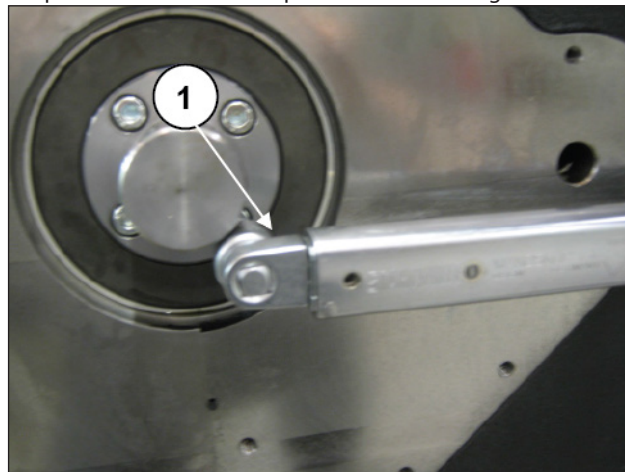

Fig. 123
Assemble the lube pump drive shaft to the crankshaft and fix with the four M8 screws (pos. ①, Fig. 123) then tighten with a torque wrench to the value prescribed in heading 3.